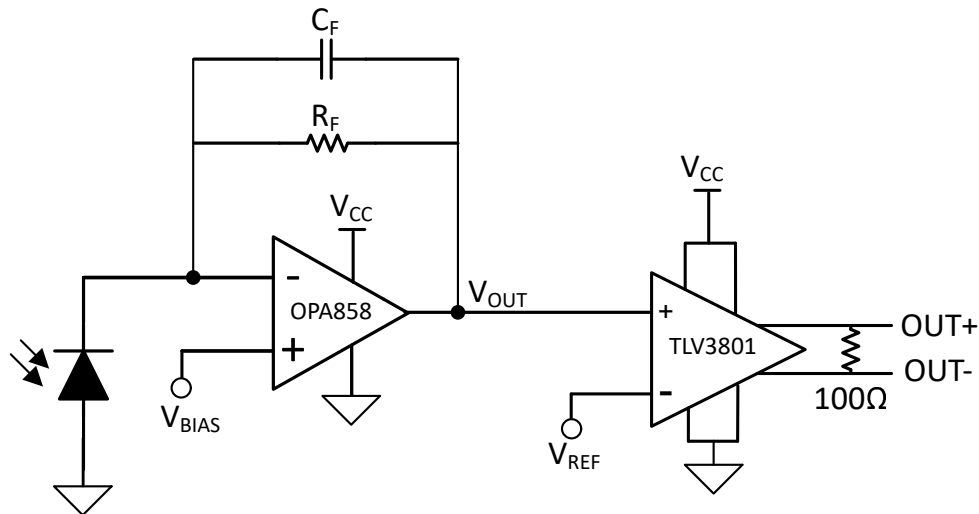

Figure 8-1. Optical Receiver
The TLV3801/TLV3811(C) can be used in conjunction with a high performance amplifier such as the OPA858 to create an optical receiver as shown in the Figure 8-1. The photodiode operates in photoconductive mode: exposure to light will cause a reverse current through the photodiode. A bias voltage is applied to the op amp's non-inverting input to prevent saturation at the negative power supply. The OPA858 takes the current conducting through the diode and translates it into a voltage for a high speed comparator to detect. The TLV3801/TLV3811(C) will then output the proper LVDS signal according to the threshold set ( $V_{REF}$ ).